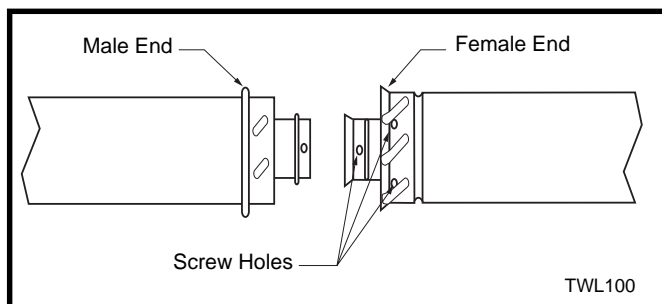

Fig. 14 Twist-Lock pipe joints.
To join twist lock pipes together, simply align the beads of the male end with the grooves of the female end, twisting the pipe until the flange on the female end contacts external flange on the male end. It is recommended that you secure the joints with three (3) sheet metal screws, however this is not mandatory with twist lock pipe (Fig. 14).